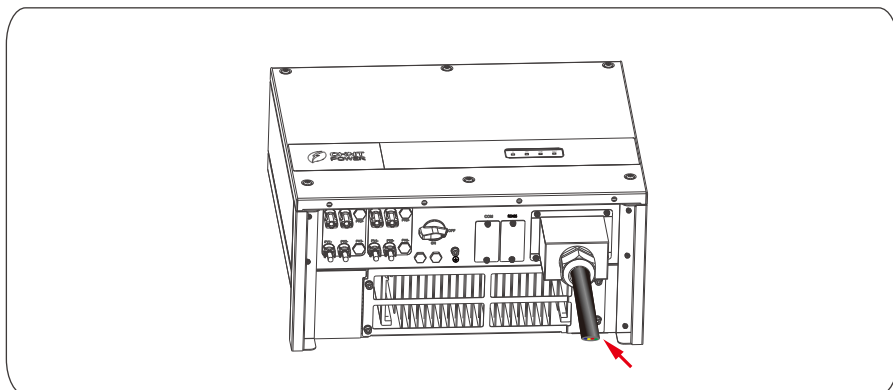

Figure 5.7 Locking the terminal cover
Step 4 Lock the AC OUTPUT terminal cover back to the original position, straighten all the wires and then tighten the plug of the AC connector, as shown in Figure 5.7.